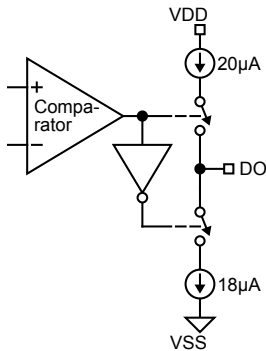

Figure 7. DO Pin
The output stage for the digital output (DO) in Figure 7. The output is a 20μA push and 18μA pull switched-current stage. This output stage is capable of driving CMOS loads. An external buffer-driver is recommended for driving high capacitance loads.